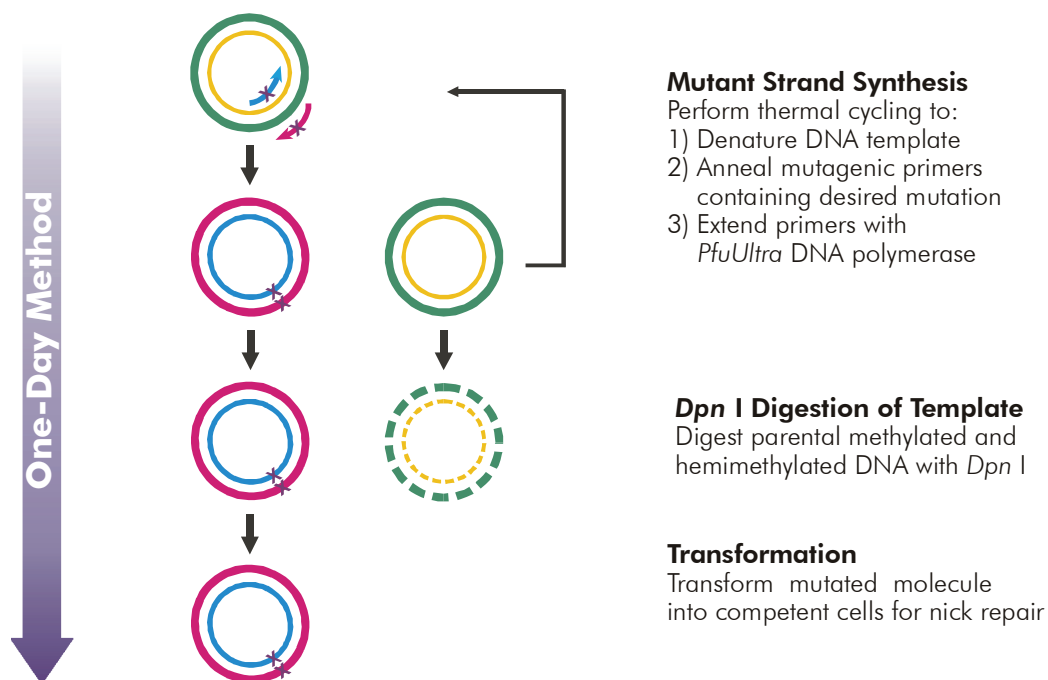

FIGURE 1 Overview of the QuikChange II site-directed mutagenesis method.
In vitro site-directed mutagenesis is an invaluable technique for characterizing the dynamic, complex relationships between protein structure and function, for studying gene expression elements, and for carrying out vector modification. Several approaches to this technique have been published, but these methods generally require single-stranded DNA (ssDNA) as the template¹⁻⁴ and are labor intensive or technically difficult. Stratagene's QuikChange® II Site-Directed Mutagenesis Kit* allows site-specific mutation in virtually any double-stranded plasmid, thus eliminating the need for subcloning and for ssDNA rescue.⁵ In addition, the QuikChange II site-directed mutagenesis kit does not require specialized vectors, unique restriction sites, multiple transformations or in vitro methylation treatment steps. The rapid three-step procedure generates mutants with greater than 80% efficiency in a single reaction (see Figure 1). The protocol is simple and uses either miniprep plasmid DNA or cesium-chloride-purified DNA. For long (~8 kb) or difficult targets, Stratagene offers the QuikChange II XL Site Directed Mutagenesis Kits (Catalog #200521 and #200522).
The QuikChange II site-directed mutagenesis kit is used to make point mutations, replace amino acids, and delete or insert single or multiple adjacent amino acids. The QuikChange II site-directed mutagenesis method is performed using *PfuUltra*[®] high-fidelity (HF) DNA polymerase** for mutagenic primer-directed replication of both plasmid strands with the highest fidelity.^{||} The basic procedure utilizes a supercoiled double-stranded DNA (dsDNA) vector with an insert of interest and two synthetic oligonucleotide primers, both containing the desired mutation (see Figure 1). The oligonucleotide primers, each complementary to opposite strands of the vector, are extended during temperature cycling by *PfuUltra* HF DNA polymerase, without primer displacement. Extension of the oligonucleotide primers generates a mutated plasmid containing staggered nicks. Following temperature cycling, the product is treated with *Dpn* I. The *Dpn* I endonuclease (target sequence: 5'-Gm⁶ATC-3') is specific for methylated and hemimethylated DNA and is used to digest the parental DNA template and to select for mutation-containing synthesized DNA.⁶ (DNA isolated from almost all *E. coli* strains is dam methylated and therefore susceptible to *Dpn* I digestion.) The nicked vector DNA containing the desired mutations is then transformed into XL1-Blue supercompetent cells.